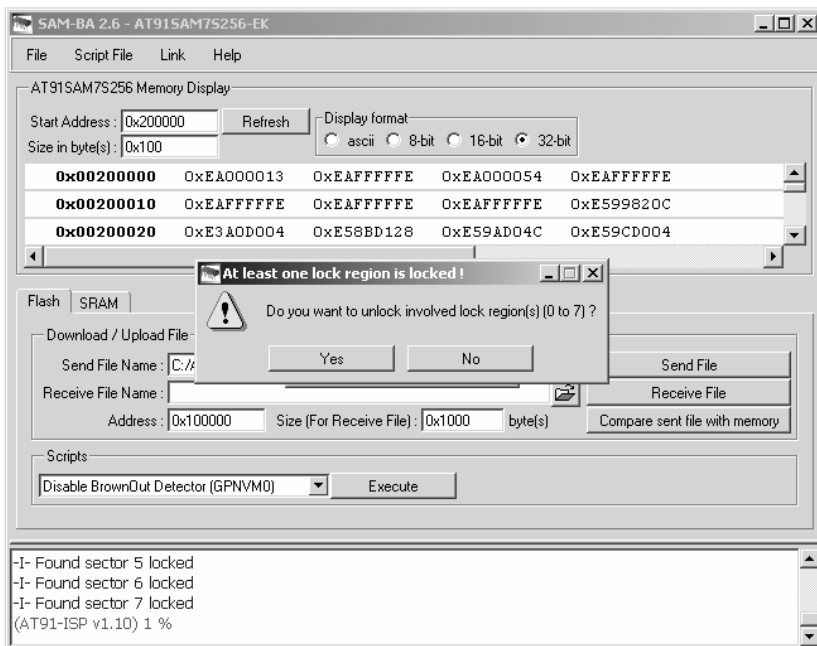

Fig.4 Message Unlock Involved Lock Regions Window
- e. Click the button "Send File" to send the latest code into board. You will be asked to unlock the involved lock regions (0 to 7), click the button "Yes" to begin send code into board. Please see figure 4 below.